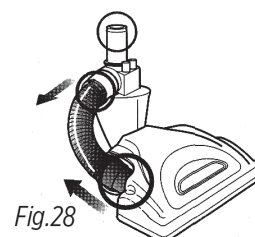

Fig.28
- Detach the hose on the motorized floor brush at the top by squeezing the tabs together and pulling out, and at the bottom by pulling out the connector. Inspect inside the 3 holes. (Fig. 28 )